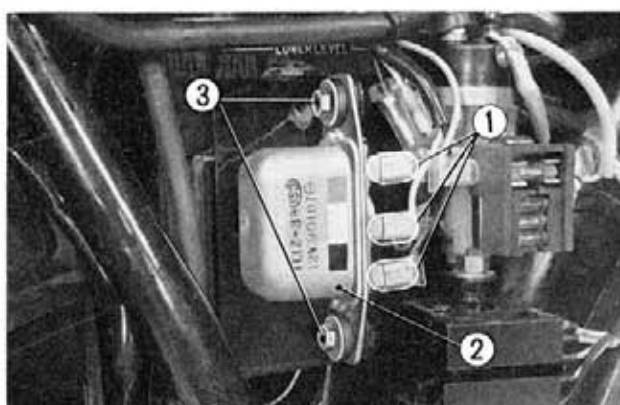

Fig. 8-11 ① Connectors
1. Detach the battery cover and remove the regulator by unscrewing the two setting bolts. (Fig. 8-11)